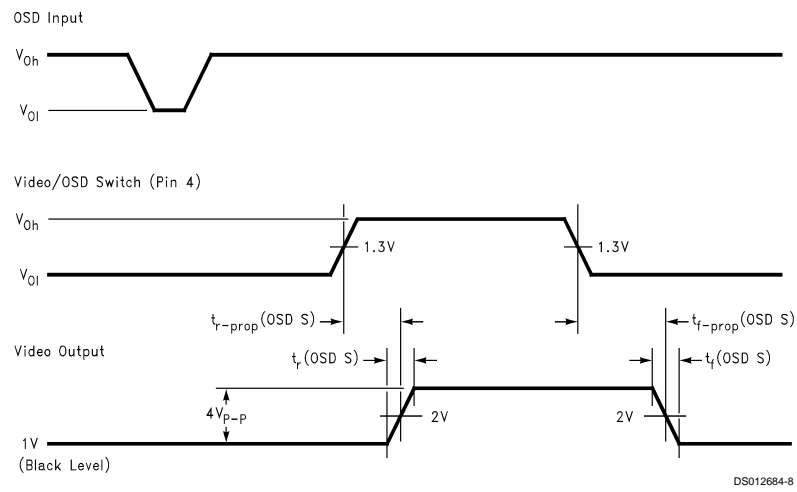

FIGURE 3. Video to OSD, OSD to Video Propagation Delay and Switching Time
**Note 16:** When  $V_1 = V_2 = V_3 = 0\text{V}$  and the video input is 0.7V, then  $t_r$  (OSD) = 11 ns and  $t_f$  (OSD) = 4 ns. The Video Output waveform will be inverted from the one shown in Figure 3. Thus  $t_r$  (OSD) is actually a fall time and  $t_f$  (OSD) is actually a rise time in this condition.